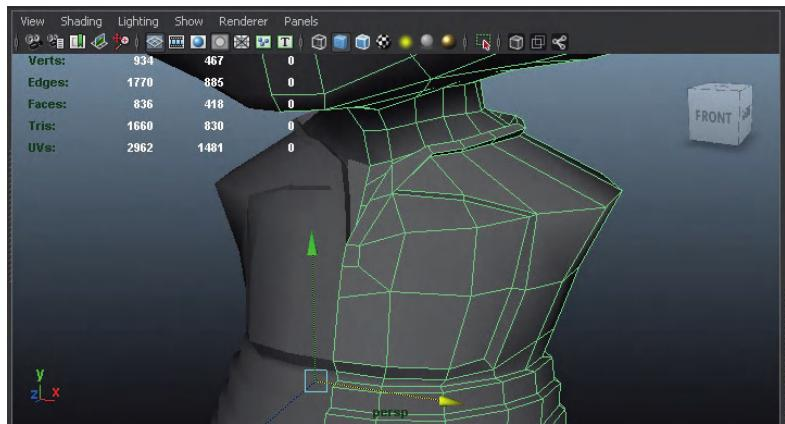

FIG 4.59 Maneuvering new geometry to match the style sheets.
Step 77: Adjust the new geometry to match the style sheets (Fig. 4.59).